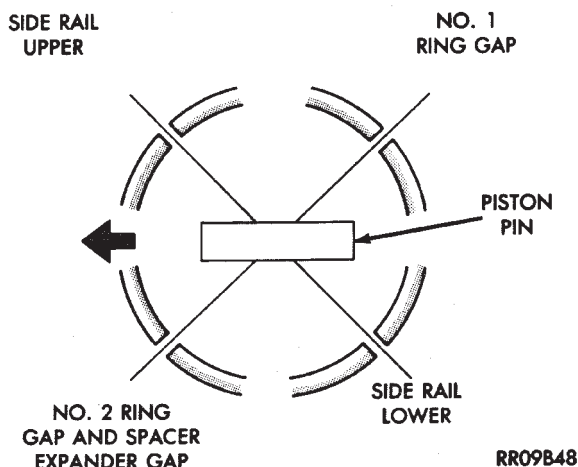

Fig. 98 Piston Ring End Gap Position
(10) Position piston ring end gaps as shown in (Fig. 98).
(11) Position oil ring expander gap at least 45° from the side rail gaps but **not** on the piston pin center or on the thrust direction. Staggering ring gap is important for oil control.